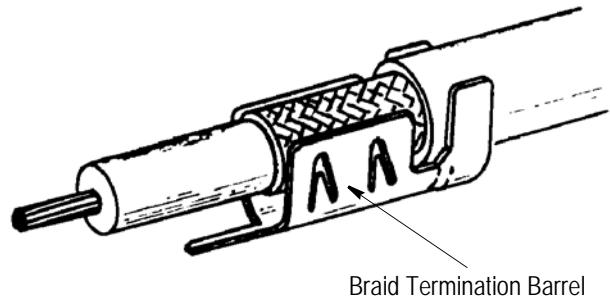

Figure 4
2. Select a terminal and then place the stripped cable into the braid termination section of the terminal, using a straight downward motion. Make sure that the braid seats in the "pic-type" braid-termination barrel and that the outer insulation fits into the support barrel. See Figure 4.